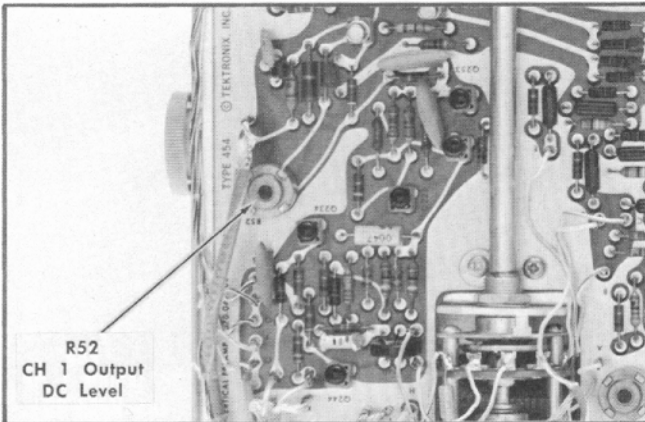

Fig. 6-34. Location of CH 1 output DC level adjustment (Vertical Preamp circuit board).
h. ADJUST—CH 1 Output DC Level adjustment, R52 (see Fig. 6-34), to position the trace to the center horizontal line of the graticule.